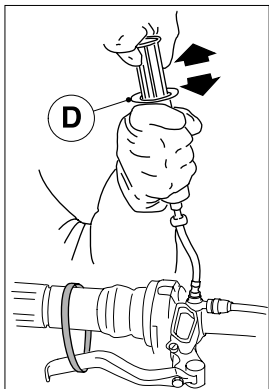

Fig. 11
- Place the syringe D (Fig. 11) filled with 10 ml of oil on the coupling and screw it firmly in place.